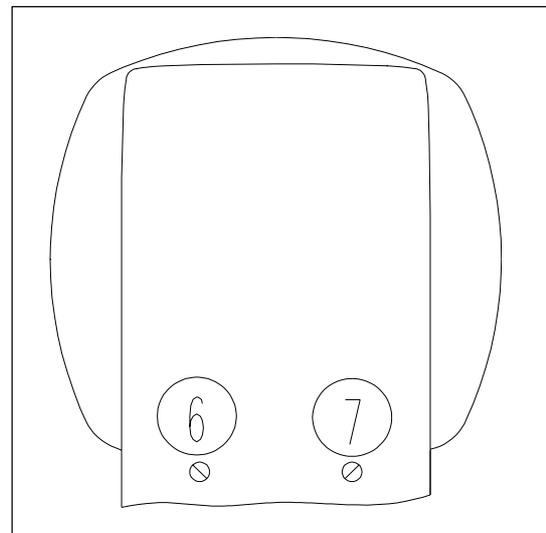

Figure 13. Underside of cuspidor.
- 11) Adjust the cup filler at screw (6) under the cuspidor (see Fig. 13) till an activation fills the supplied reference cup to the mark.
- 12) The cuspidor flush water flow can be adjusted by screwing (7), see Fig. 13.